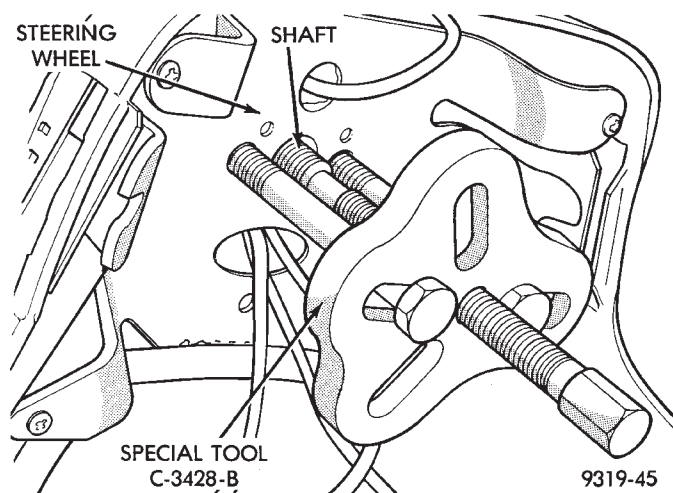

Fig. 6 Removing Steering Wheel From Shaft
(7) Remove steering wheel from shaft using Puller, Special Tool C-3428-B or equivalent (Fig. 6). **Do not bump or hammer on steering column shaft to remove wheel.**
(8) Remove instrument panel left and right end covers. Refer to Group 8 Electrical in this service manual for the required removal procedure.